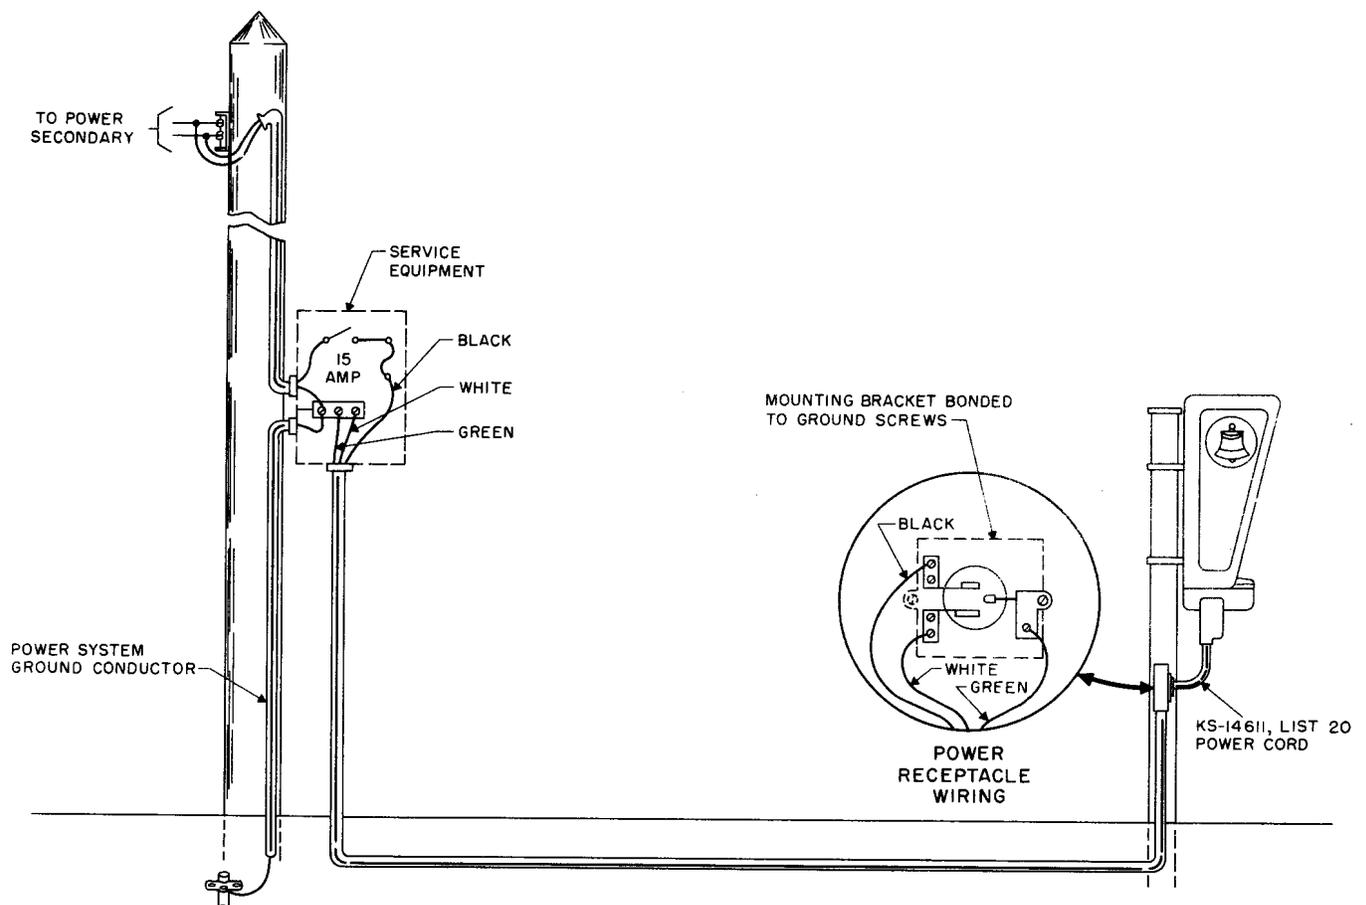

Fig. 4 – Individual Power Source to Mounting
6.05 The use of a KS-14611, List 20 power cord assembly is shown in Fig. 4. The cord-connected or direct conduit-connected arrangements may be used interchangeably in Fig. 4, 5, and 6. In either case the mounting is grounded by means of a separate third-wire connected directly to the power system ground.